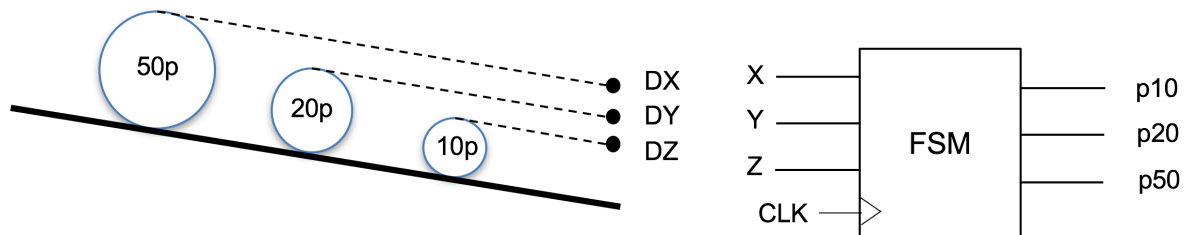
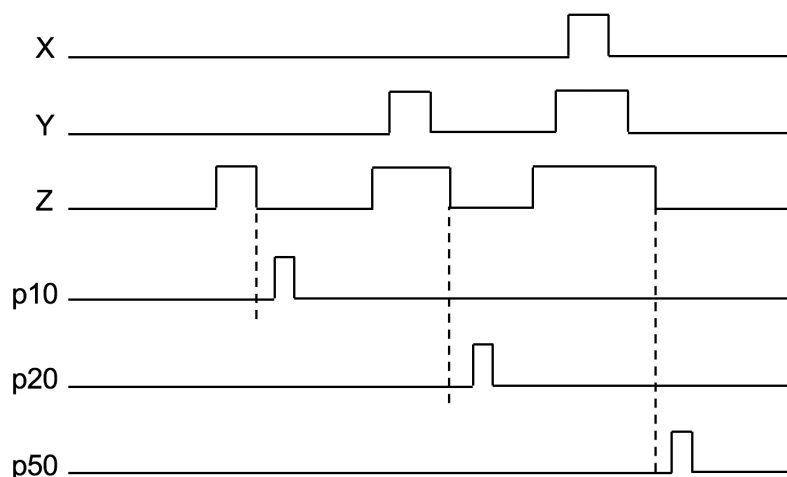

Figure 3.1
Figure 3.2
3. *Figure 3.1* shows a channel in a vending machine through which coins are rolled down and detected by three light sensitive detectors. The timing diagram for the signals X, Y, Z from the three detectors Dx, Dy and Dz when 10p, 20p and 50p coins are respectively fed into the machine in that order are given in *Figure 3.2*. The detectors are so positioned that only waveforms X, Y, Z as shown are possible. A synchronous finite state machine (FSM) is used to generate the three output signals p10, p20 and p50 as shown in *Figure 3.2* to indicate the type of coin being detected.